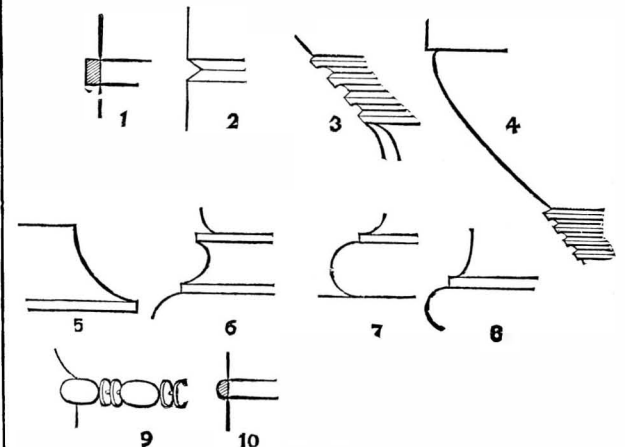

Fig. 7.
B. *Annular Mouldings*.—(Fig. 7.) Only employed for the caps and bases of circular columns.